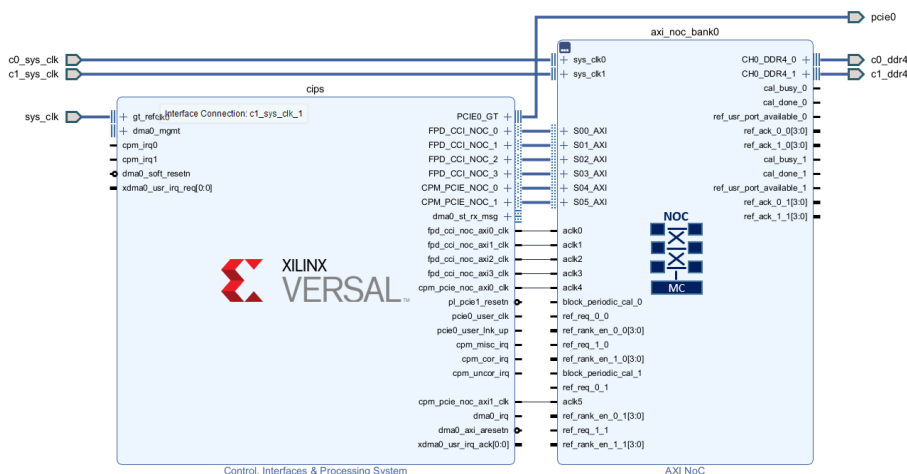

Figure 3: Simple Block Diagram design using NoC DDR4 SDRAM controllers with Interleaving
Figure 3 below shows another example Vivado Block Diagram design, this time with a single AXI NoC IP instance controlling both DDR4 SDRAM banks in an interleaved manner. The choice of interleaved vs. non-interleaved is made in the configuration GUI for the AXI NoC IP; see Section 3.1 for details.
- (b) **Interleaved** – The AXI NoC IP instance controls both banks of DDR4 SDRAM and interleaves data across them, as shown in Figure 3. This effectively doubles DDR4 SDRAM bandwidth provided that AXI transactions to and from the memory controllers utilize sufficiently long bursts. This choice is illustrated in Figure 5 below.